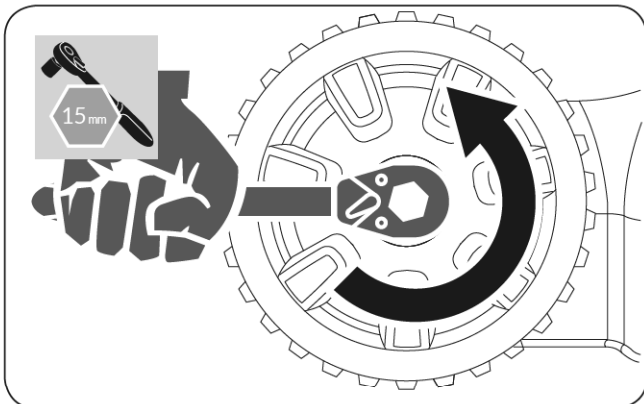

Figure 27
2. Remove the wheel nut and wheel from the wheel axle, using a 15 mm socket wrench. (See **Figure 27**)